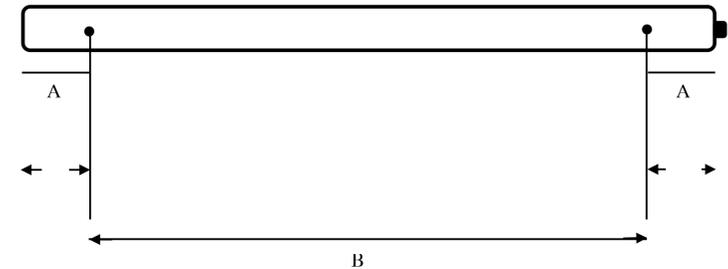

Fig 1
- Mark the location of the fixing brackets, and drill the holes ensuring not to infringe with any joists, gas or water pipes or electrical cables (see Fig 1)